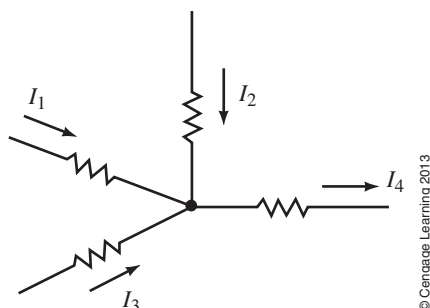

FIGURE 1–11 A nodal point in an electronic circuit. As you learn in Chapter 6, the current leaving the junction is equal to the sum of currents entering.
46. A portion of an electronic circuit is shown in Figure 1–11. As you will learn in Chapter 6, for this circuit, $I_4 = I_1 + I_2 + I_3$. If $I_1 = 1.25$ mA, $I_2 = 350$ μ A, and $I_3 = 250 \times 10^{-5}$ A, what is I_4 ?
47. For Figure 1–12, $I_1 + I_2 - I_3 + I_4 = 0$. If $I_1 = 12$ A, $I_2 = 0.150$ kA and $I_4 = 250 \times 10^{-1}$ A, what is I_3 ?